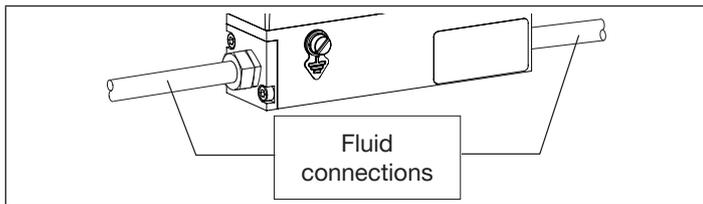

Fig. 29: Threaded fluid connections
- Disconnect the fluid connections. See Fig. 29.